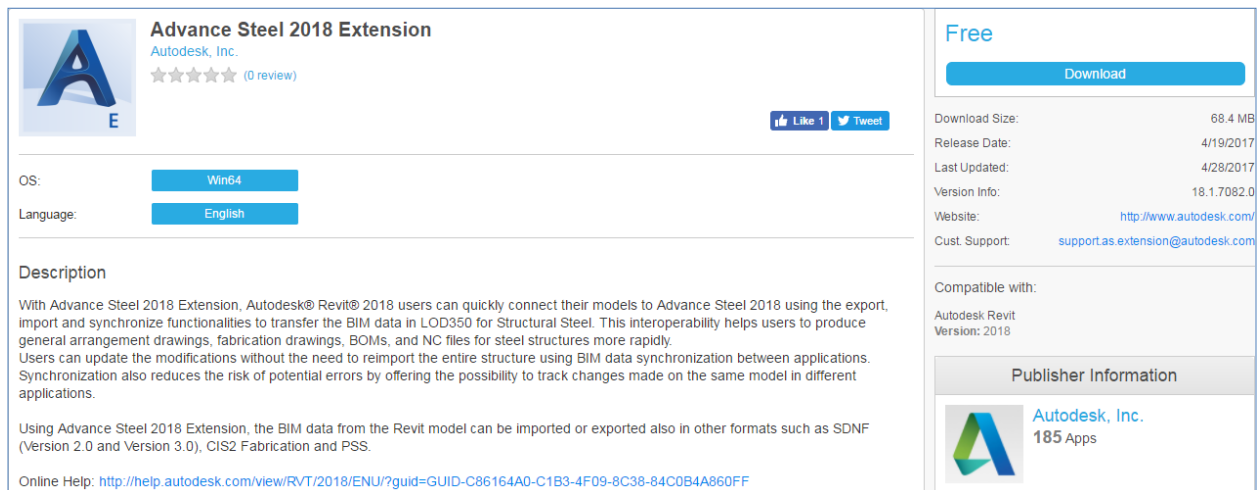

FIGURE 4: THE **ADVANCE STEEL 2018 EXTENSION**
2. On the Exchange Apps store, search for **Advance Steel 2018 Extension**. It is a free Add-In for the Autodesk Subscription customers, as shown in Figure 4.